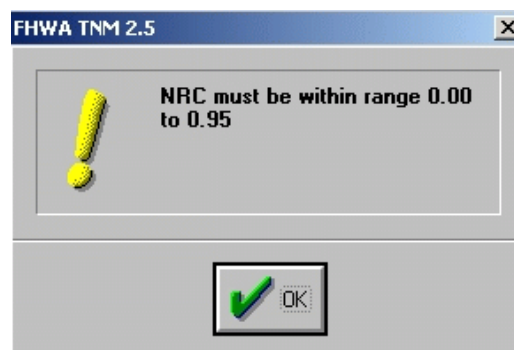

Figure 22. NRC out of range pop-up error message.
2.8.1 Cross Section. When a user enters a noise reduction coefficient (NRC) greater than 0.95 or less than 0 for the default value for barrier surfaces in TNM 2.5, a dialog box pops up "NRC must be within range 0.00 to 0.95" (see Figure 22). When entering an NRC value directly in a cell for a specific barrier segment, the value will be limited to the range of 0.00 to 0.95.